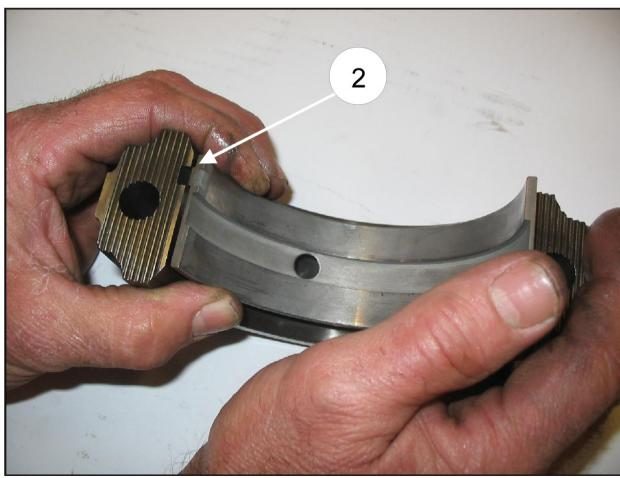

Fig. 6/a
If the piston guide rods have been disassembled, before reassembling them check the correct positioning of the sealing O-rings (pos. ①, Fig. 6/b) replace them if necessary. Tighten the piston guide rods through the respective two M6 screws to the tightening torque indicated in the table of page 24.